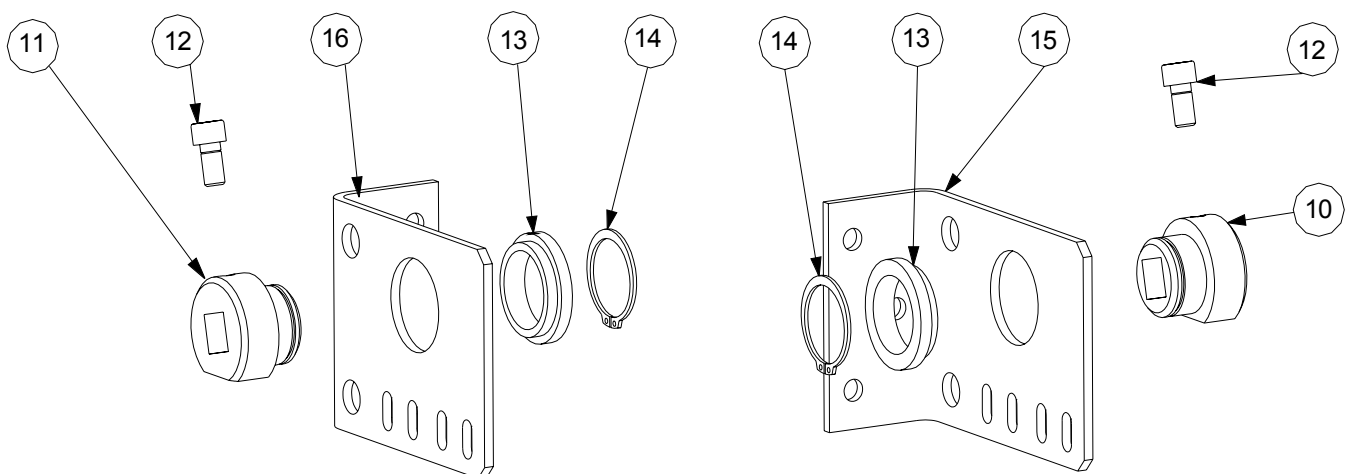

Figure.4
It must be taken in care during the assembly the fact that the left mounting plate (16) is different than the right one (15). The left support cap (11) is also different than the right one (10). The grooves of the mounting plate will be always at the lower part (See Fig. 4). The plane face of the support caps must remain parallel to the plate grooves and the thread must always look to the lift sling as it is shown at figure 4. The other components can be used either in one side or in the other side.
The nylon tips (13) must be introduced in each mounting plate in the way shown at Fig.4, later on, the support caps must be inserted from the opposite side, joining them (with the help
of stright-end pliers) through a security ring (**14**). Finally, an M8 x 16 DIN 912 8.8 screw (**12**). Must be introduced in each cap. The whole process is shown at figure.4.